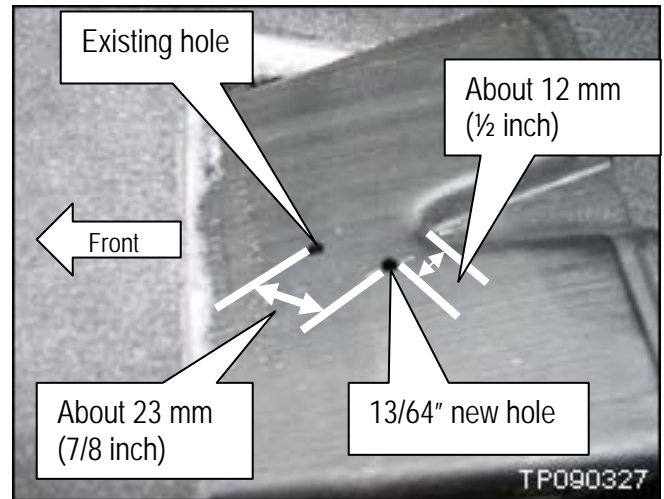

Figure 14
- Locate the new hole as shown in Figure 14.